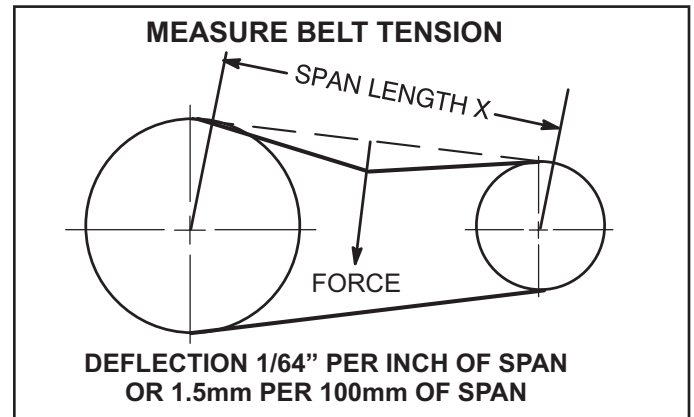

FIGURE 9
- 1 - Measure span length X. See figure 9.